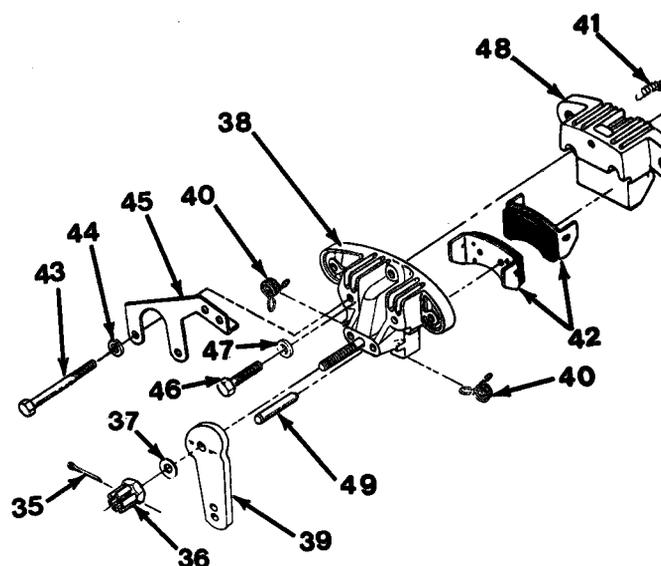

Figure 17-6
1. Remove cotter pin (35), castle nut (36) and washer (37) from stud in cam side casting (38, Figure 17-6). Discard cotter pin (35).
2. Remove operating cam (39) from stud in cam side casting (38).
3. Remove two springs (40) and spring (41).
4. Remove two pad holder assemblies (42).
5. Remove two bolts (43), washers (44) and bracket (45).
6. Remove bolt (46) and washer (47) to separate cam side casting (38) and carrier casting (48, Figure 17-6).
7. Remove two push pins (49) from cam side casting (38).